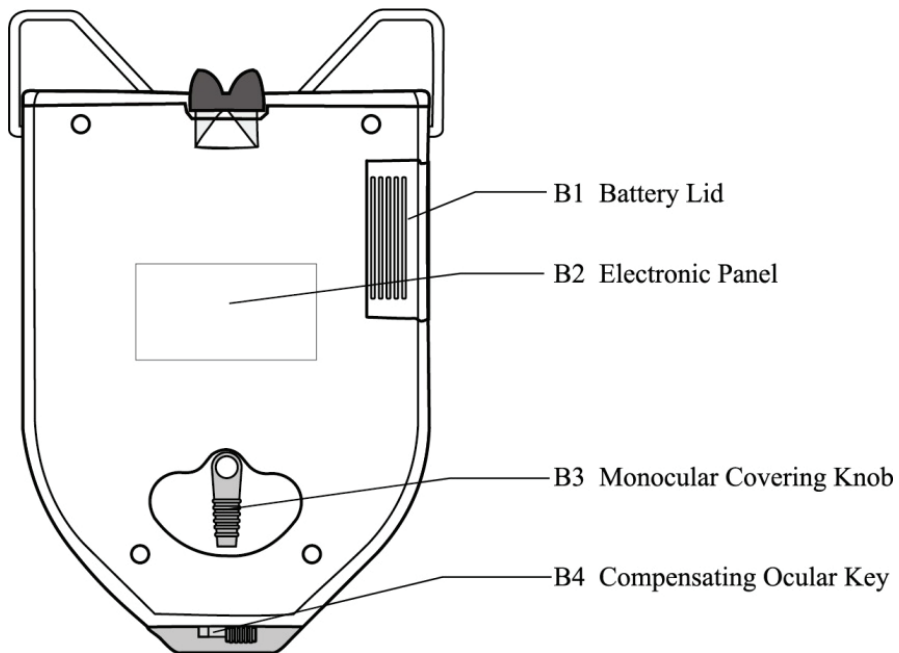
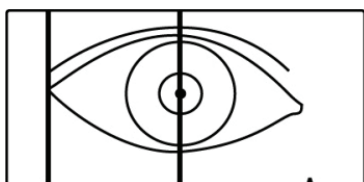
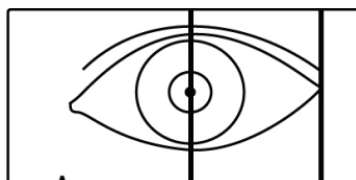

Fig.3
Fig.8a (Measuring right pupillary distance)
Fig.8b (Measuring left pupillary distance)
a. When needing to measure the left or right pupillary distance, please turn the Monocular Covering Knob (as shown in Fig.3 B3) which can cover the other eye completely (as shown in Fig.8a and Fig.8b)